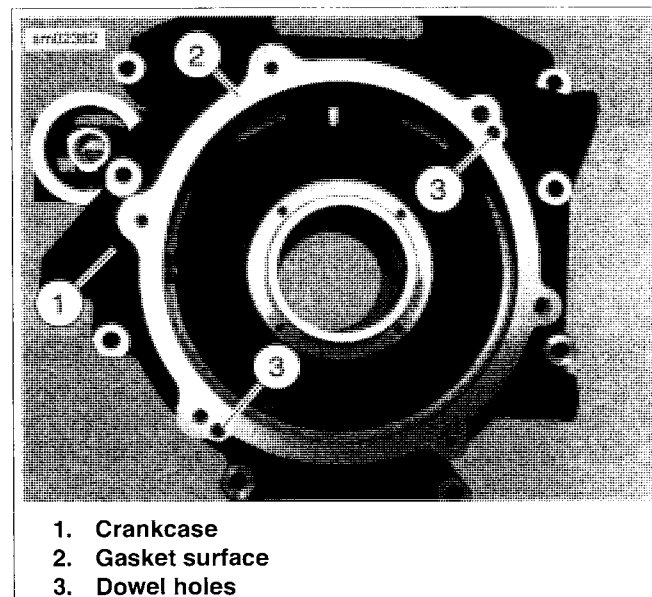

Figure 5-27. Crankcase
1. See Figure 5-27. Place crankcase gasket in place on gasket surface (2). Be sure dowels in gasket engage dowel holes (3).